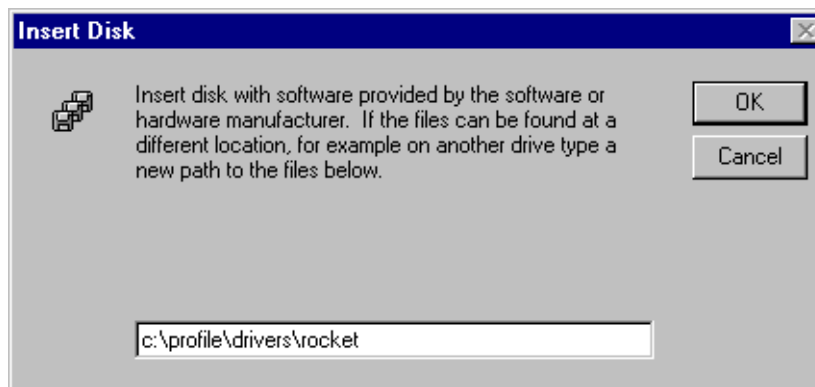

Figure 1. Type the path to the device driver files
6. When you are prompted, type **c:\profile\drivers\rocket** as the path of the directory containing the driver files (see Figure 1.) and click **OK**.